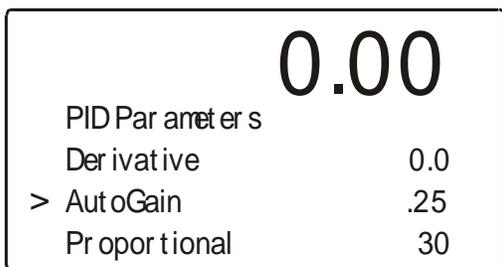

FIG. 3-15 PROCESS SETUP/SETTING AUTOGAIN
- Step 8. Press the “-” until the cursor is in front of “AutoGain”. (See Fig. 3-15)